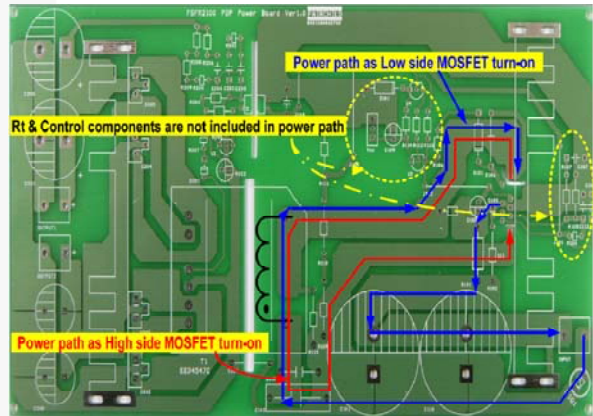

Figure 25. Example for Duty Balancing
7. PCB Layout Guidelines: Duty imbalance problems may occur due to the radiated noise from the main transformer, the inequality of the secondary side leakage inductances of main transformer, and so on. This is one of the reasons that the control components in the vicinity of R_T pin are enclosed by the primary current flow pattern on PCB layout. The direction of the magnetic field on the components caused by the primary current flow is changed when the high- and low-side MOSFET turn on by turns. The magnetic fields with opposite directions induce a current through, into, or out of the R_T pin, which makes the turn-on duration of each MOSFET different. It is strongly recommended to separate the control components in the vicinity of R_T pin from the primary current flow pattern on PCB layout. Figure 25 shows an example for the duty-balanced case.